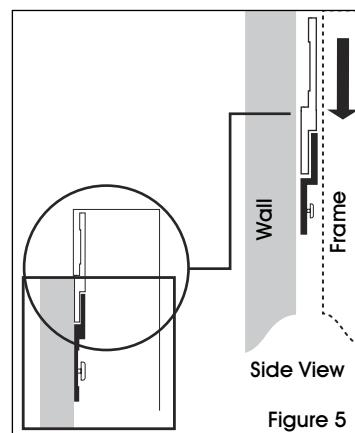

Figure 5
5. Lower board onto the top hanging brackets so built-in brackets on upper board frame are engaged. (See Figure 5)